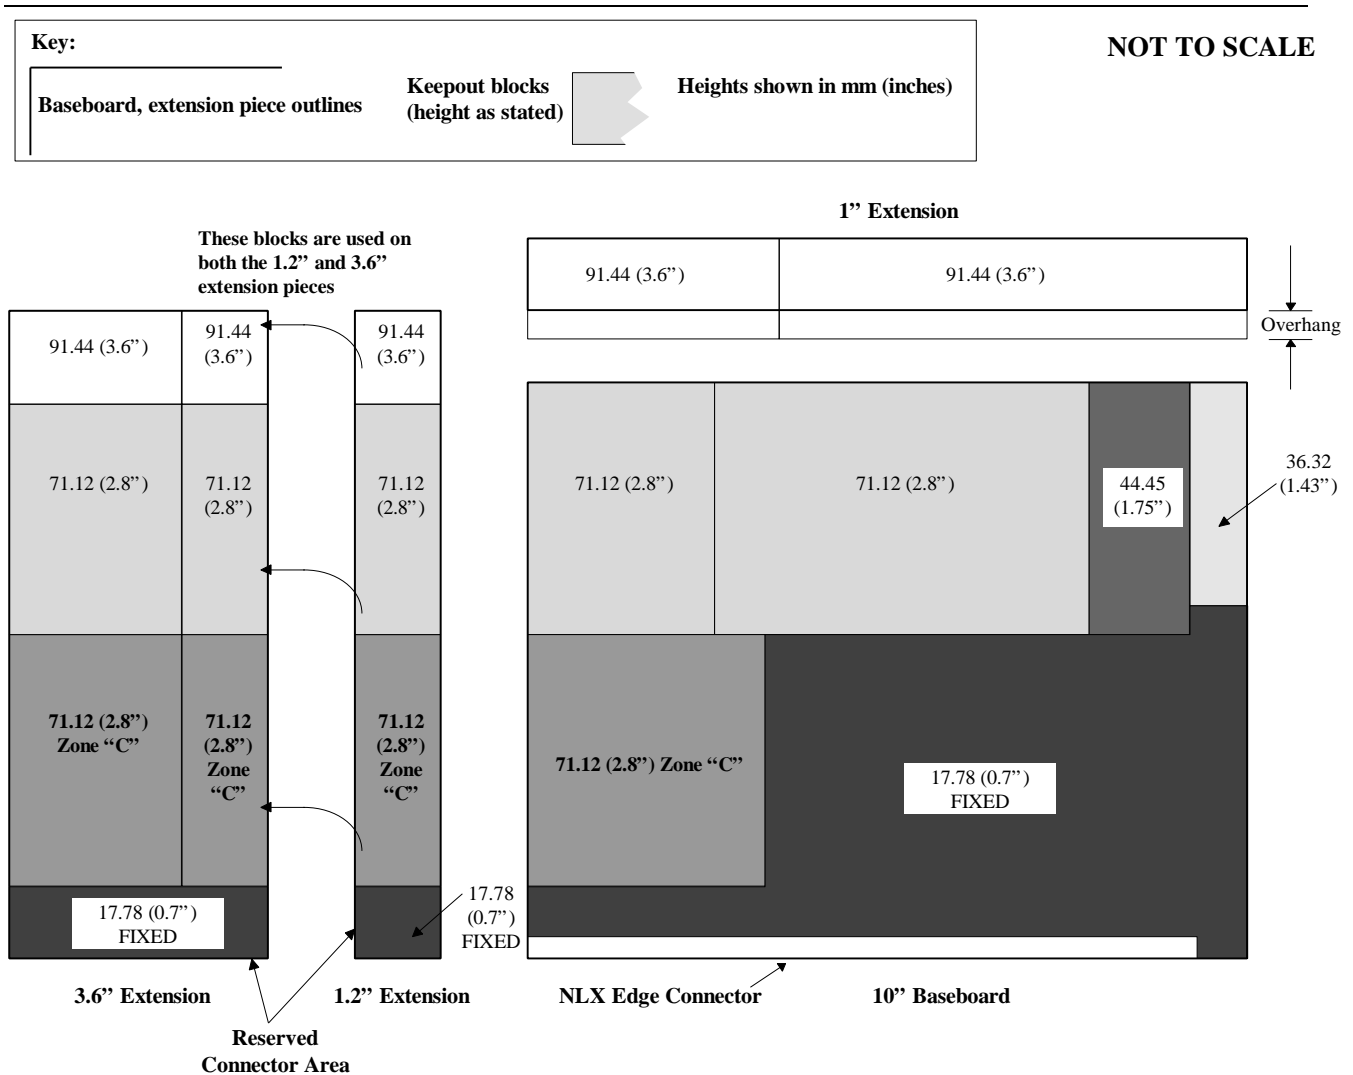

Figure 4: Keepout Block Location Diagram
- Figure 4: Added callout, “Reserved Connector Area,” to emphasize fixed blocks on the 3.6" and 1.2" extension pieces.
The blocks are keyed to fit in only the appropriate locations. Figure 4 shows locations by block height. The three blocks that fit the 1.2" extension can also fit the 3.6" extension to represent the additional keepout areas for 11.2" and 13.6" motherboards, respectively. In the lowest defined keepout areas (17.78mm, 0.7"), the blocks are fastened with screws instead of dowels on the 10" baseboard and the two extension pieces, because it is unlikely that impingement (violations) will occur in this area.